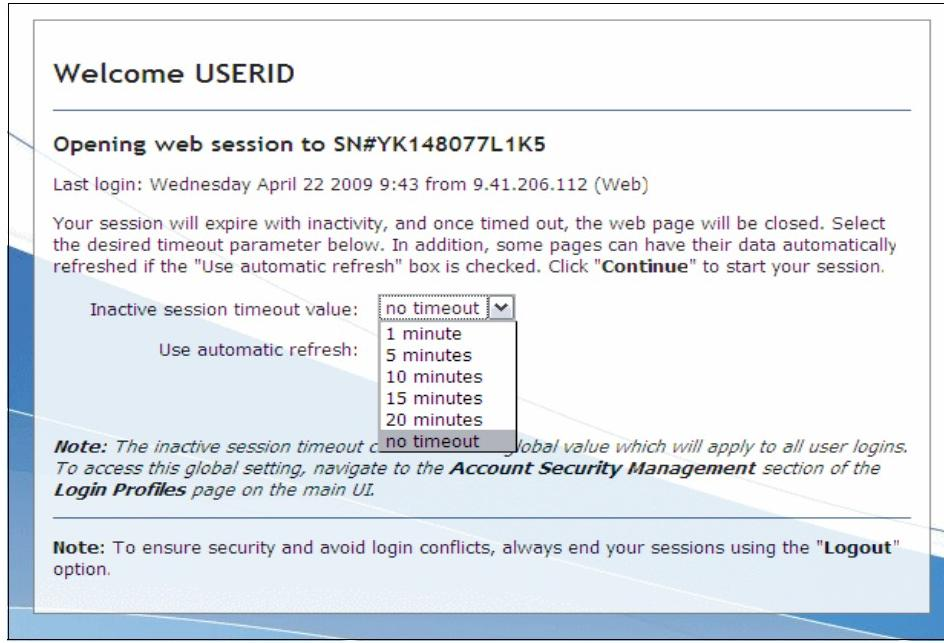

Figure A-3 Select time-out parameter
2. If prompted, select the time-out parameter that defines after how much idle time the session will be closed. Click **Continue**; Figure A-3. Our example has been modified to show no time-out.